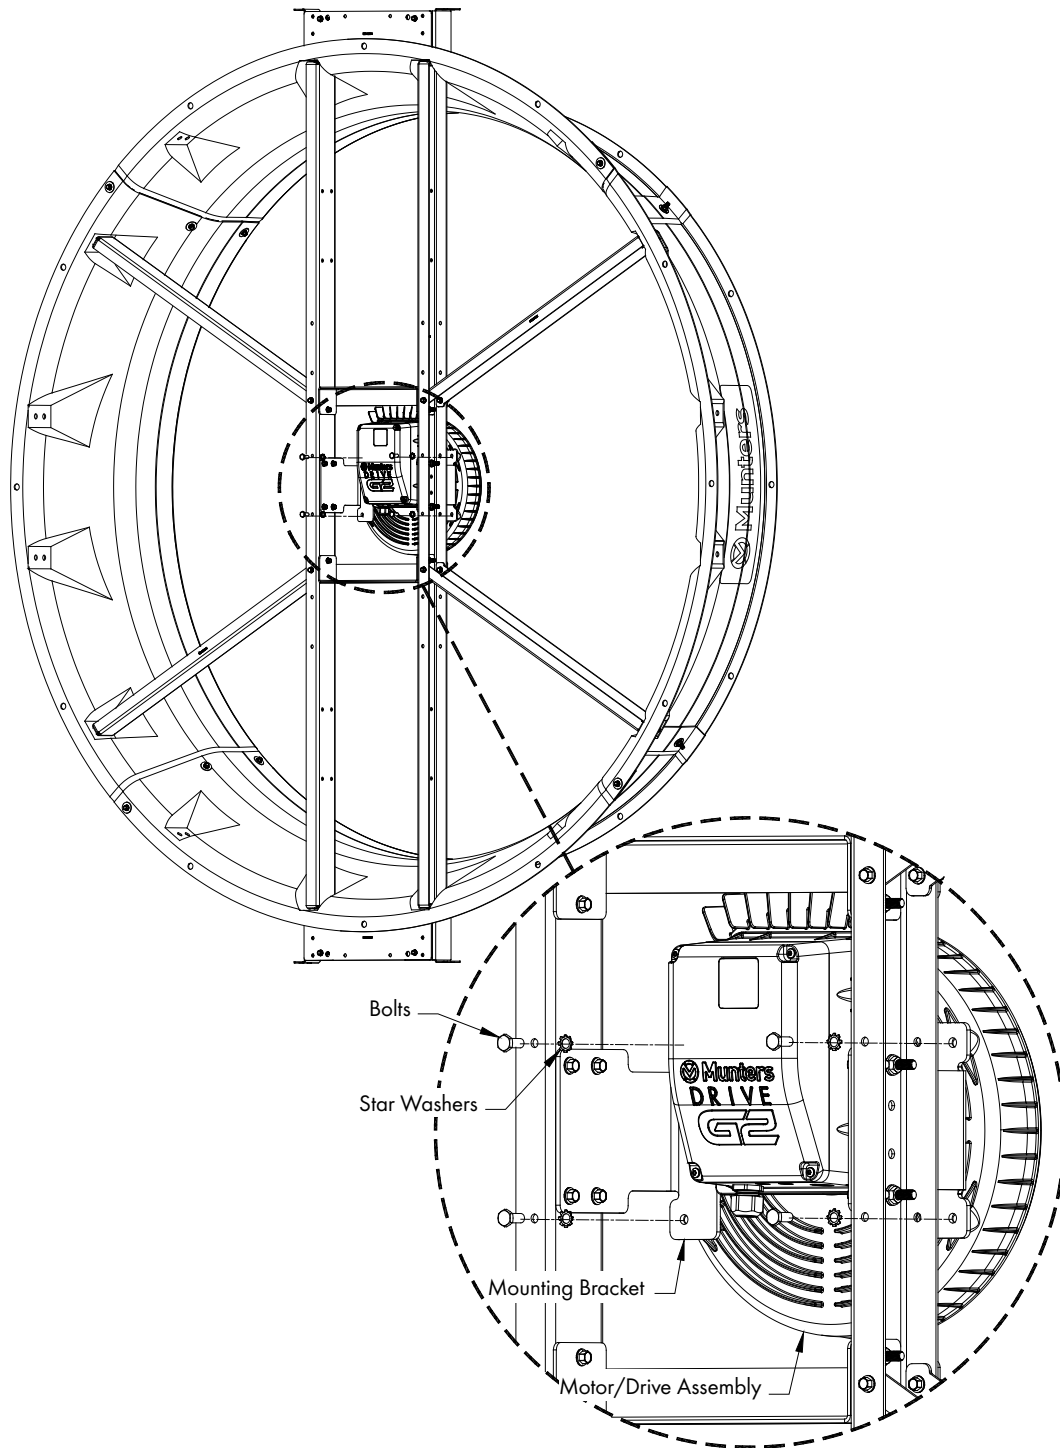

Figure 17
Remove the Motor/Drive assembly from the mounting bracket by removing the (4) bolts and star washers holding the Motor/Drive to the brackets. Motor/Drive assembly, make sure to support it while removing bolts so it does not fall and damage the fan housing or Motor/Drive. See Figure 17. If you were instructed by Munters office to send the old Motor/Drive back to the office, repack it in the box that new Motor/Drive came in to send back.